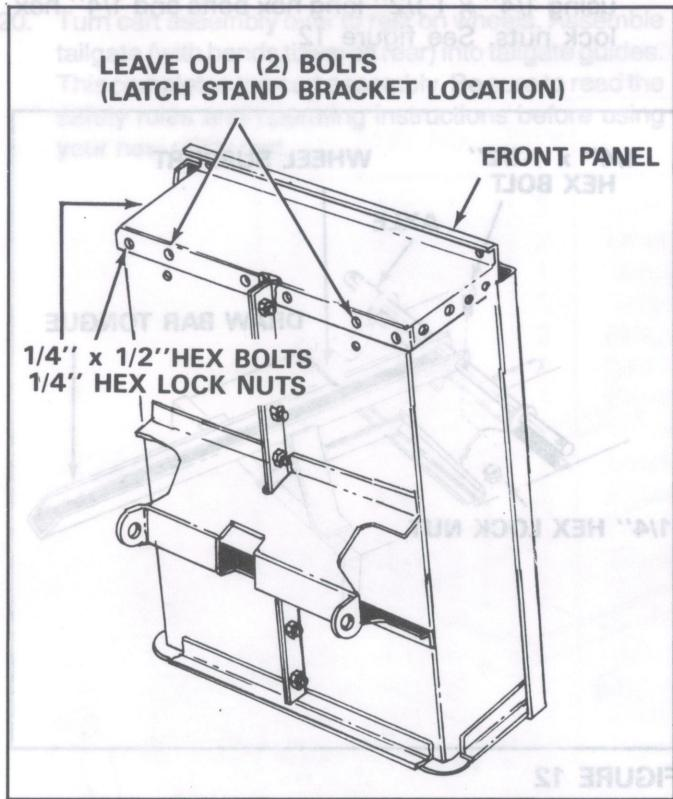

FIGURE 6
11. Assemble front panel to open end of cart body, using ten $1/4'' \times 1/2''$ hex bolts and $1/4''$ hex lock nuts. Bolt heads go to inside of cart. Leave out (2) bolts for latch stand bracket. See figure 6.